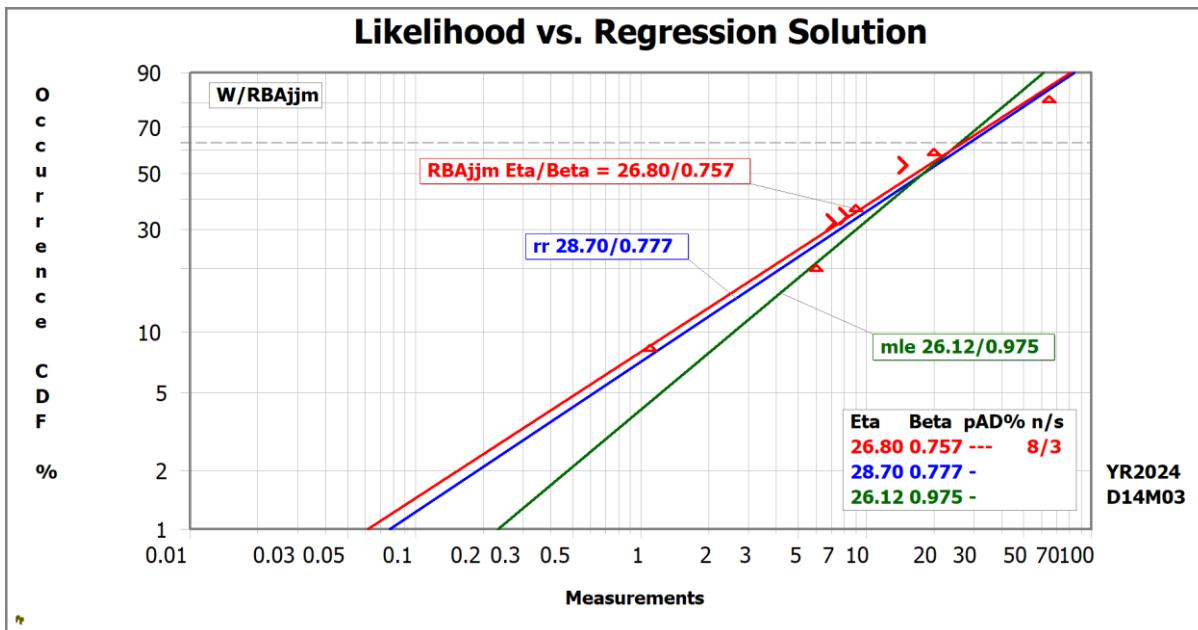

Figure 7: Comparing Rank Regression (rr), Maximum Likelihood Estimate (mle), & mle-RBA (RBAjjm)
- From the Main Screen, Home group, select Open/Import, and open the **PlayTIME-Problem-5.w** file. Select the small plot to enlarge, it should look similar to Figure 7, but with only one line plus the data points.
- Get “RBAjjm” (mmle) solution as follows: From the Main Screen, select Analysis group, Method/Input again, then select the modified maximum likelihood (mmle) icon (showing mle symbol + 2 arrowheads). “RBAjjm” should appear on the plot for solution method. If not, return to Method/Input, select “F...Fit Method...”, select “T...Modified ... mle Type Select”, then J... Weibull/Gumbel: ‘RBAjjm...’. This latest plot (Figure 7) shows RBAjjm fit (**Eta=26.80, Beta=0.757**) agreeing well with Marker Line # 1 (‘rr’).